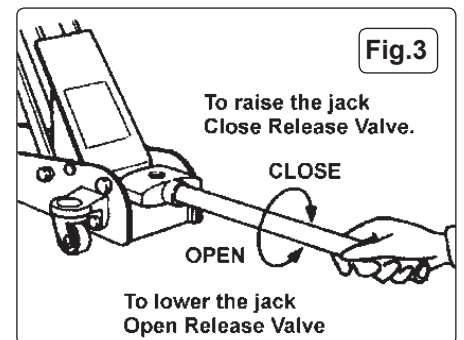

Fig.3
- 6.2.4. Turn the release valve clockwise, to the closed position (Fig.3).